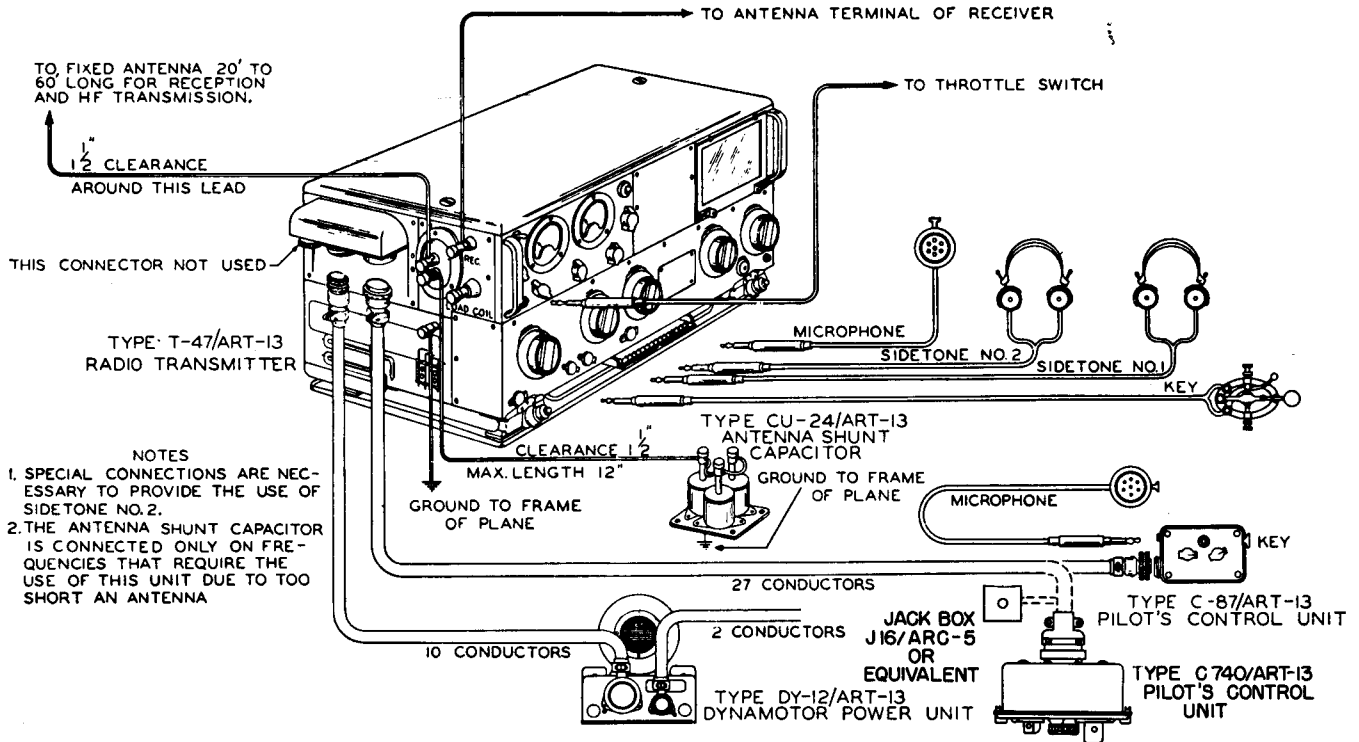
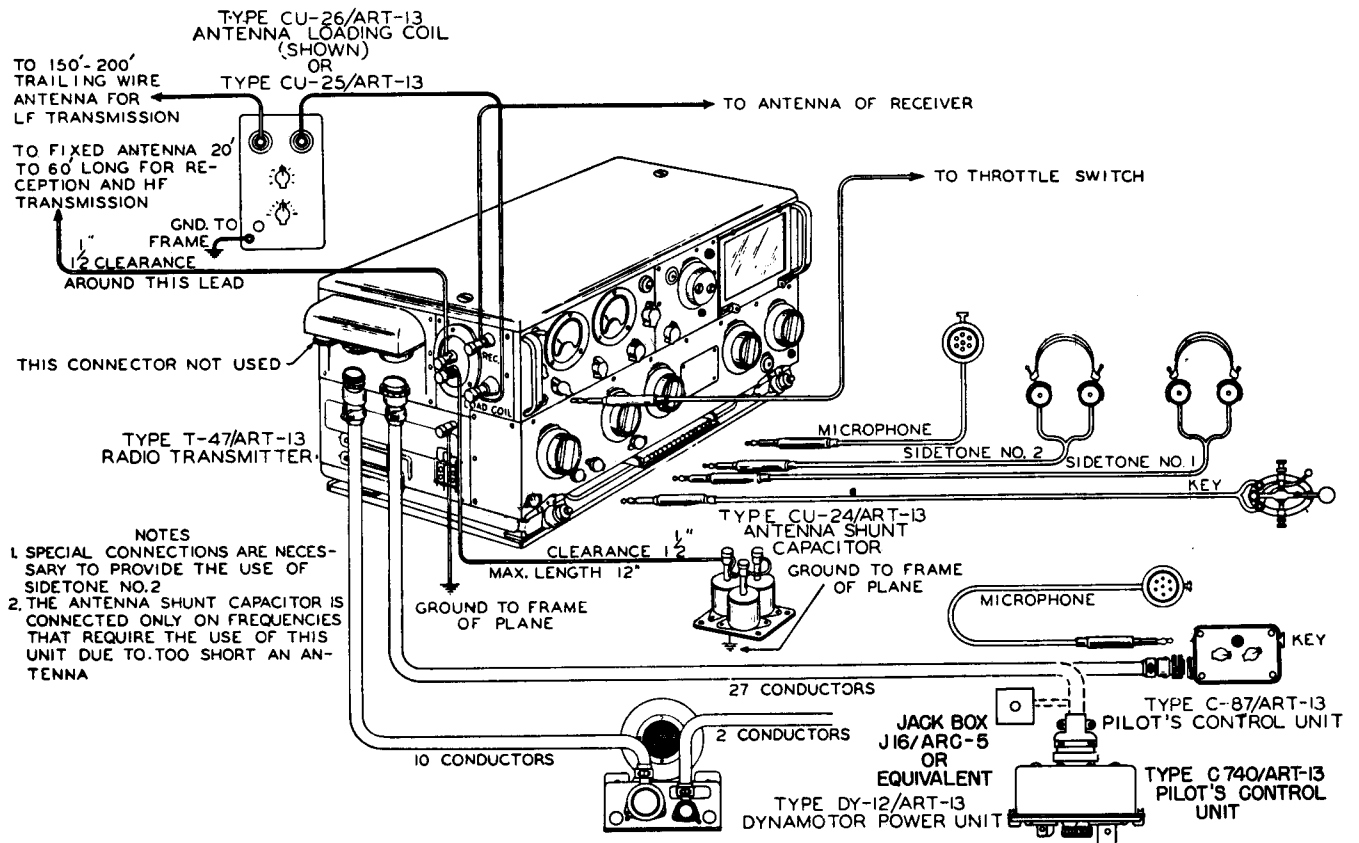

Figure 2-1. Model AN/ART-13 High Frequency Installation Diagram
Figure 2-2. Model AN/ART-13 Installation Diagram Including Special Low Frequency Units
(1) Figure 2-2. shows an AN/ART-13 installation with all of the accessories necessary for transmission on any frequency within the frequency range of the transmitter and with the transmitter control from either the transmitter panel or from a remote position. If the fixed antenna has sufficient capacity the Type CU-24/ART-13 Antenna Shunt Capacitor Unit may be omitted from the installation. Figure 2-1. shows a high frequency AN/ART-13 installation which may be used if low frequency (200 kc to 1500 kc) emission is not required.
(2) The first step in preparing the transmitter for installation is to check the vacuum tubes and calibration crystal for placement in the proper sockets. All tubes and crystal unit can be installed from the top of the transmitter unit. To remove the transmitter cabinet cover, loosen the cover holddown screws and lift the cover upward.
(Figure 2-1. and Figure 2-2. page 2-0.)